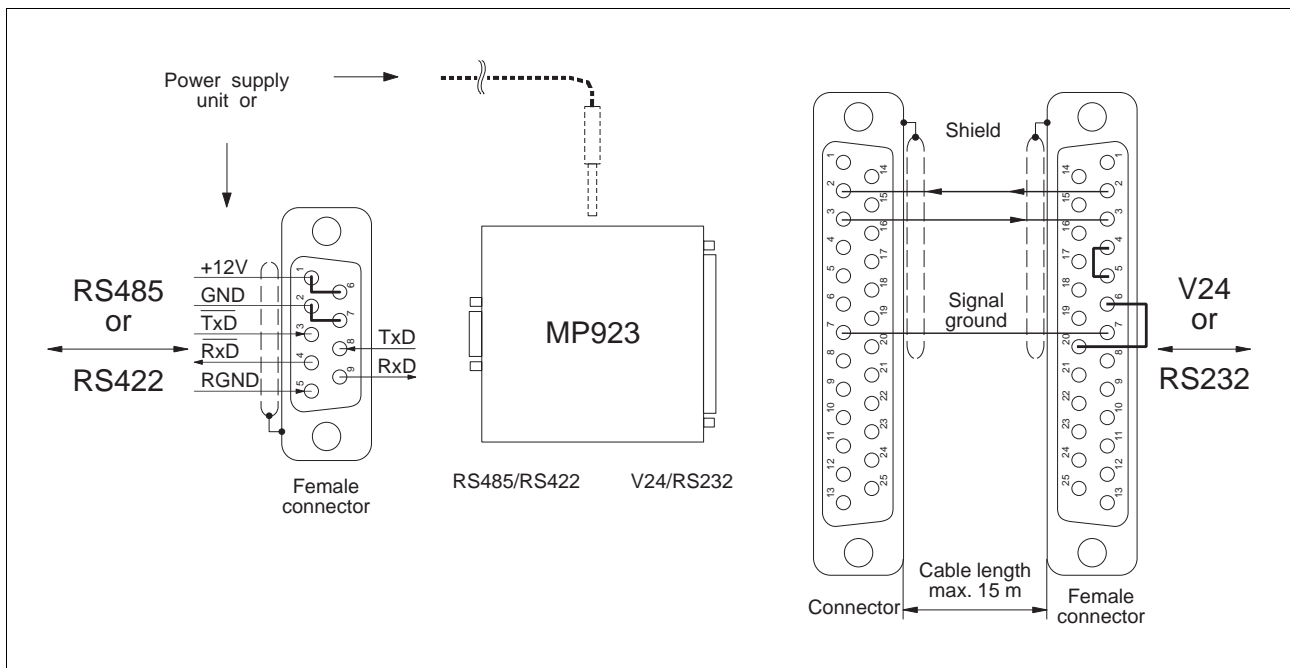

Fig. 6-20 Starting the MP 923 interface converter
1. Connect MP 923 interface converter as shown in fig. 6-20.